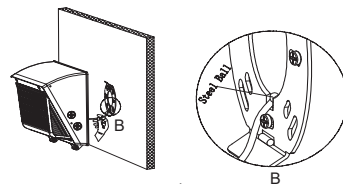

Fig.5
4. Hang the steel ball in rope into the slot of the wall-mounting plate. (see Fig 5)